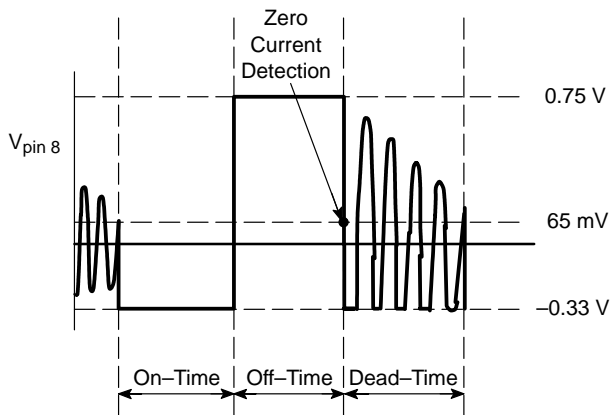
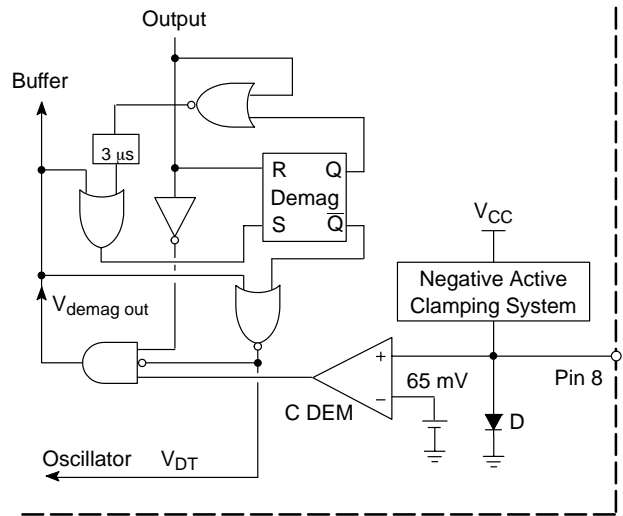

Figure 7. Demagnetization Detection
Figure 8. Demagnetization Block
- equal to zero for the dead-time with generally a ringing (refer to Figure 7).
A latch system is incorporated to keep the demagnetization block output level low as soon as a voltage lower than 65 mV is detected and as long as a new restart is produced (high level on the output (refer to Figure 8)). This process avoids that any ringing on the signal used on the pin 8, disrupts the demagnetization detection (refer to Figure 7). Finally, this method results in a very accurate demagnetization phase detection, and the signal  $V_{DT}$  drawn from this block is high only for the dead-time. Therefore, an oscillator re-start and so, a new power switch conduction is only allowed during the dead-time.
The demagnetization detection can be inhibited by connecting pin 8 to the ground but in this case, a timer (about  $3 \mu s$ ) that is incorporated to set the latch when it can not be set by  $V_{demagout}$ , results in a minimum off-time (refer to Figure 8).